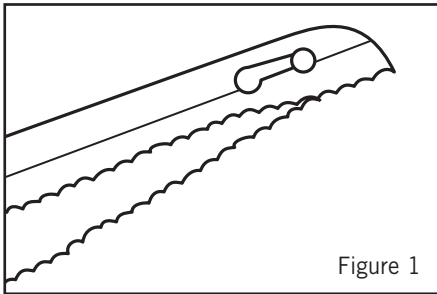

Figure 1
1. Interlock blades together before inserting into the appliance. To assemble blades, grasp shaft ends below the safety guards and slip the rivet on the tip of the other blade. See Figure 1. Bring blades together ensuring tips remain together.